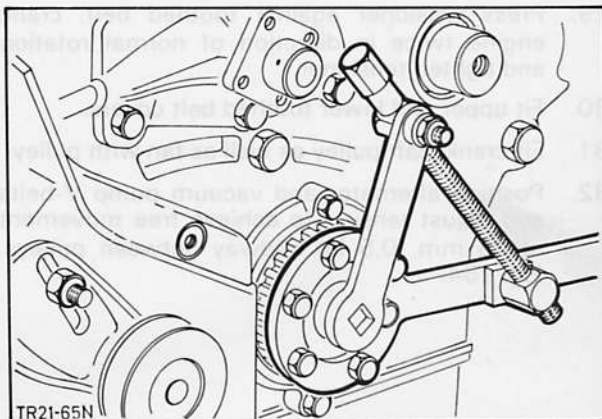

Fig. 151. Fit crankshaft hub centre bolt using Special Tool 21-018/019
26. Fit crankshaft hub centre bolt hand-tight and torque as specified in Technical Data using Special Tool 21-018/019, Fig. 151.